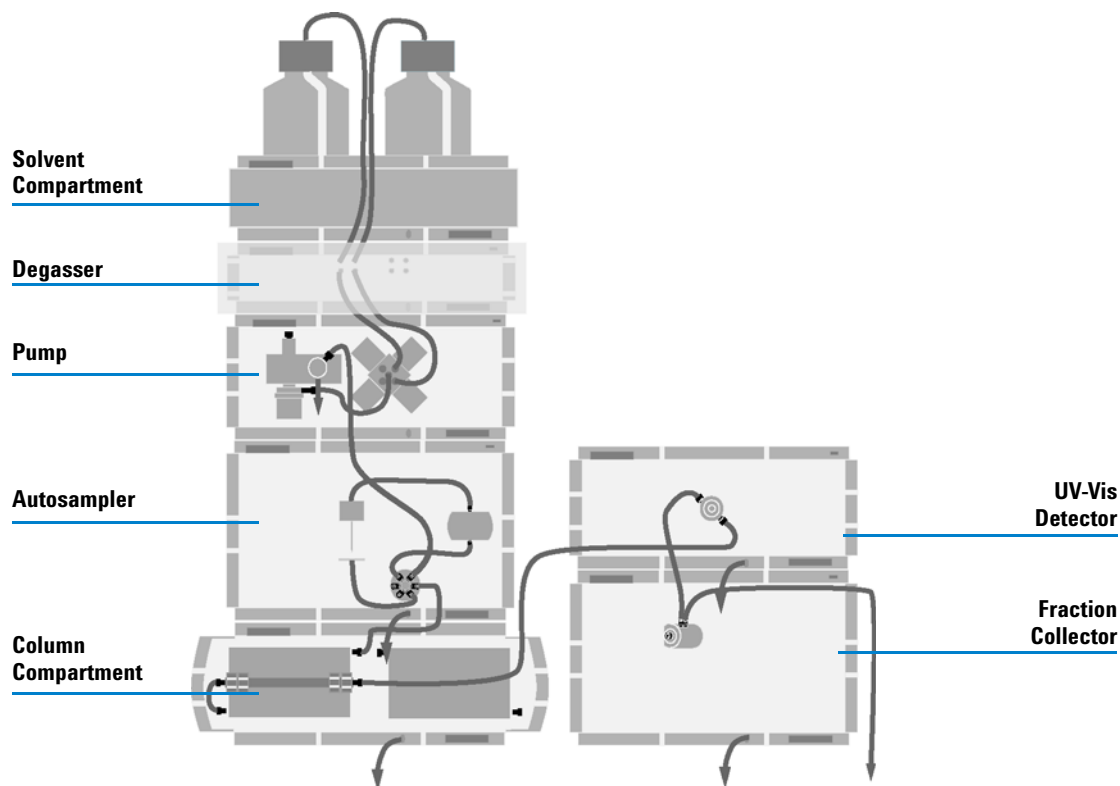
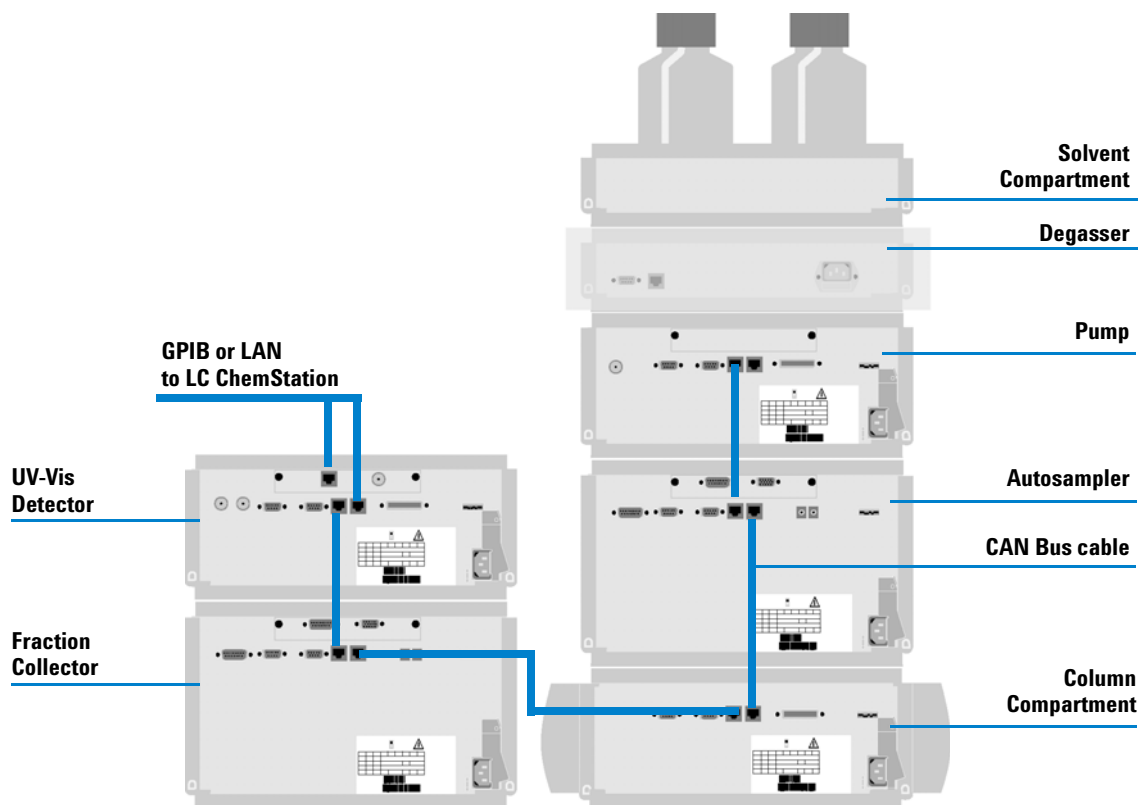

Figure 1 Recommended Stack Configuration - Fraction Collector in an Analytical System (Front View)
Figure 2 Recommended Stack Configuration - Fraction Collector in an Analytical System (Rear View)
- Figure 1 and Figure 2 on page 15 show the configuration recommended for the Fraction Collector in an analytical scale system.